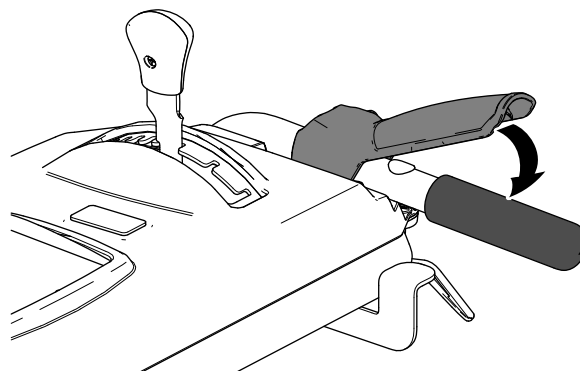

Figure 19
3. Engage the broom by slowly squeezing the right broom lever to the handle (Figure 19).